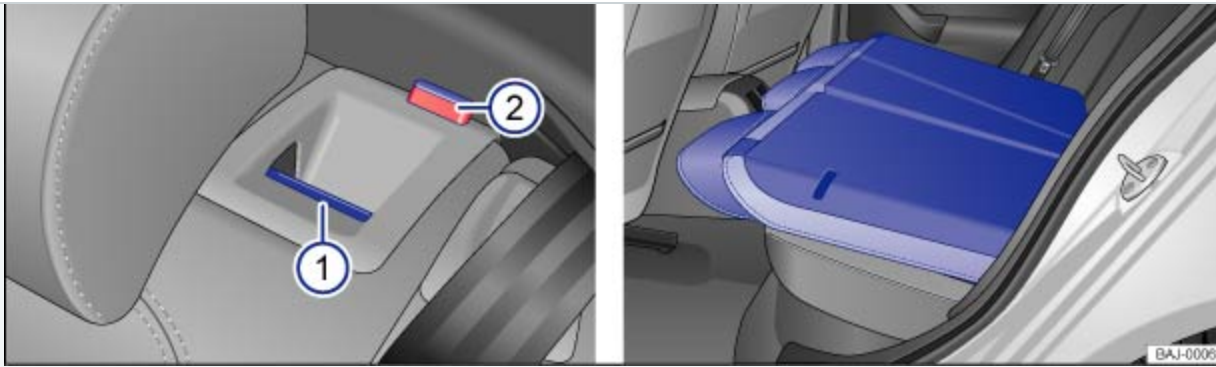

Fig. 99 : Rear seat bench: Release button ① and red mark on the indicator ②. : Seat backrest folded forward.
- Pull the release button ⇒ *Fig. 99①* forward while folding the rear seat backrest forward.
- The rear seat backrest is unlocked if the red mark ⇒ *Fig. 99②* can be seen on the indicator.
- The red mark on the indicator ⇒ *Fig. 99②* should no longer be visible.
- If the red mark on the indicator \Rightarrow *Fig. 99* is visible, this indicates that the backrest is not latched into place. Always check to make sure that the red mark is not visible whenever the rear seat backrest is in the upright position.